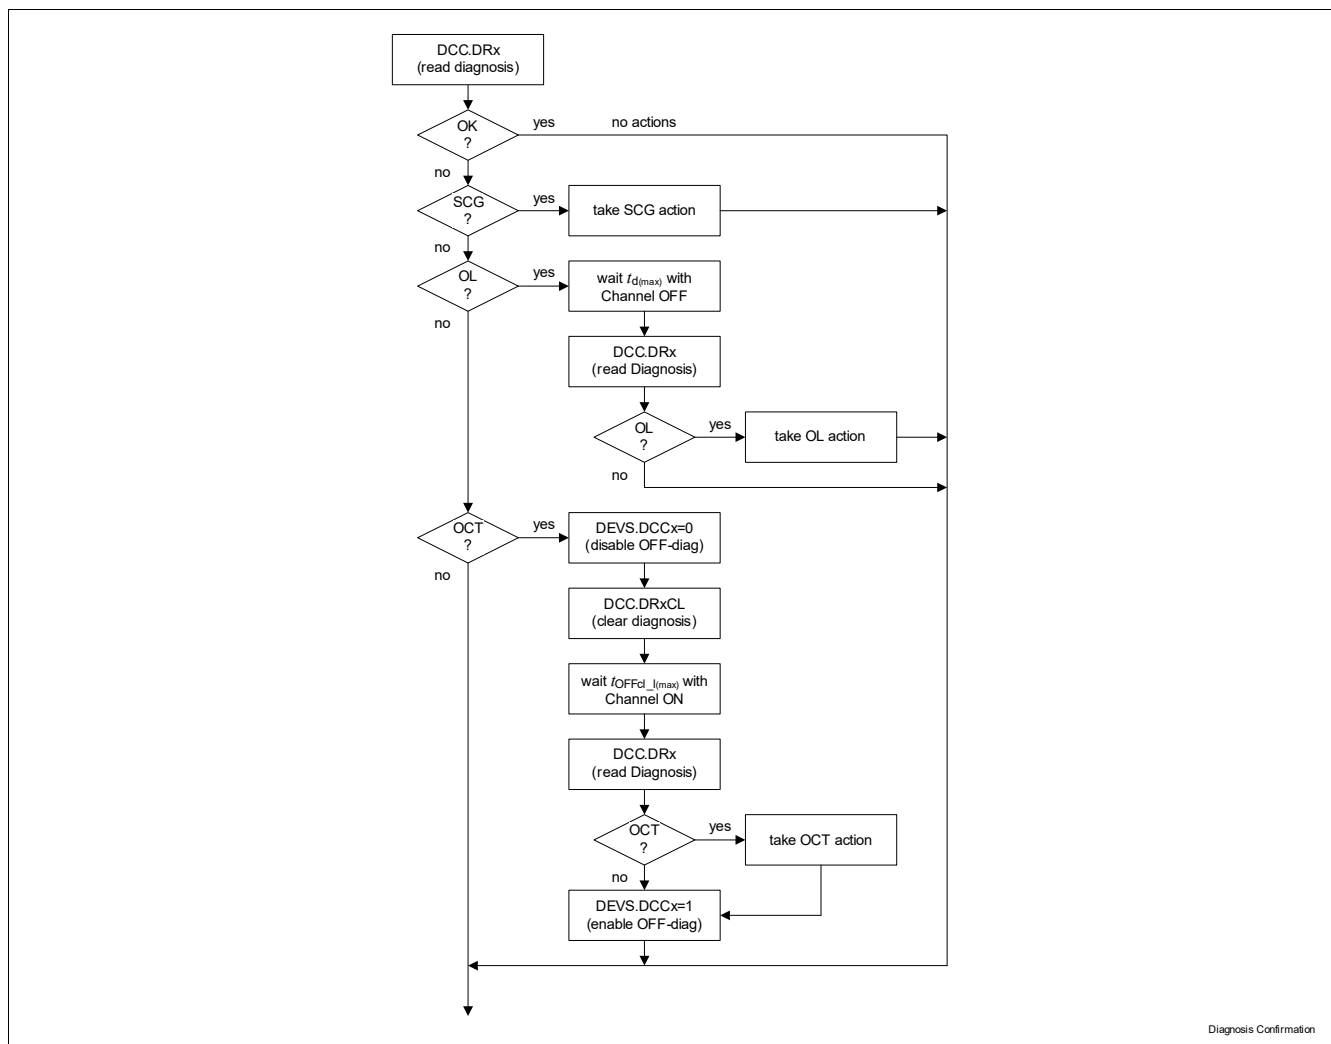

Figure 16 Diagnosis Confirmation procedure
3) For some diagnosis a confirmation procedure is required for a safe operation of the device, refer to Figure 16.
Refer to Figure 16 for the procedure flow-chart.